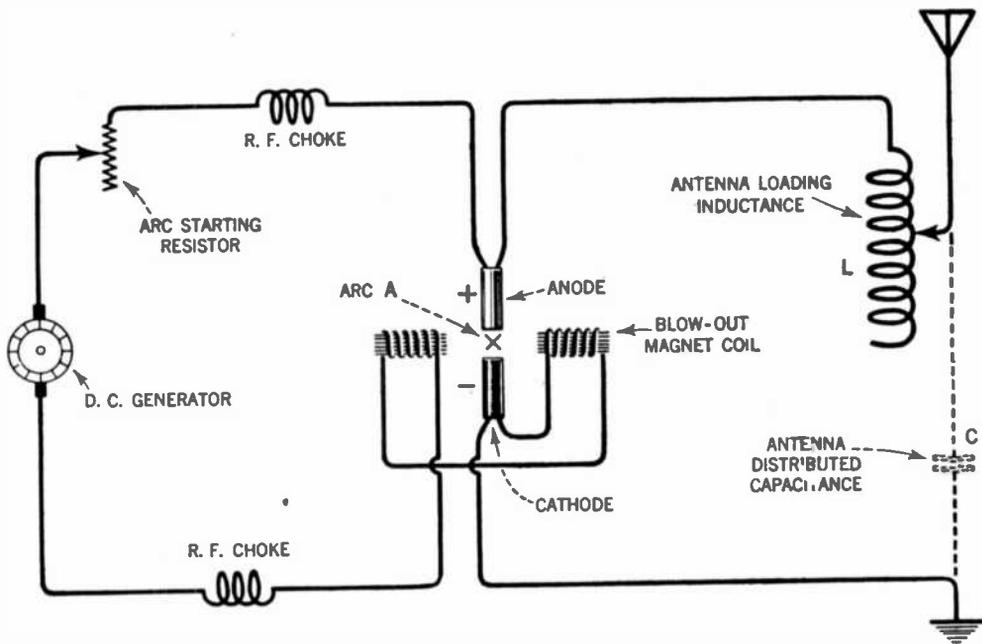

FIG. 20.—A fundamental arc circuit.
*Answer.* (1) The radiating antenna circuit and the transmitter circuit not in resonance.
(2) A vacuum tube used in the oscillator socket which does not possess good oscillating characteristics. Try interchanging all tubes, for it is more than likely that one of the amplifier tubes will be found to be a good oscillator.
(3) Examine all switch blade connections, all terminals, lugs, soldered connections and insulators as possible causes of trouble on shipboard installations. Do not permit any connections or terminals to become loose, corroded or oxidized.
*Answer.* The action explained herewith applies to an arc converter employing blowout magnet coils. See Figure 20 for a fundamental diagram of an arc circuit. After the circuit is set into operation and the electrodes carefully adjusted, then current from the d-c. generator comes to the arc anode and divides, most of it going through the arc and part of it going through inductance  $L$  to charge condenser  $C$ . Condenser  $C$  actually is the distributed capacitance of the antenna system.